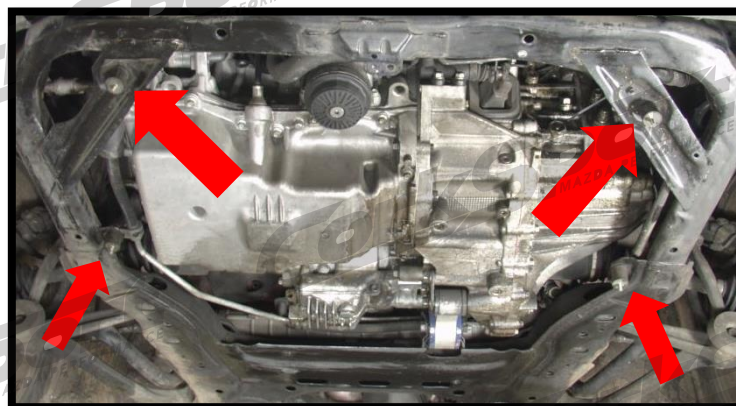

Figure 2a
- a) Screw the four (4) rubber isolators into the factory skid tray bolt locations in the frame as pictured (red arrows in Figure 2a). Lightly tighten with a pair of pliers.